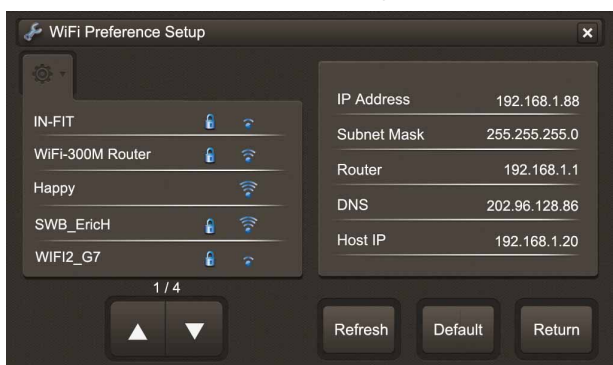

Figure 2-8
1.It will search AP in the vicinity when enter the WiFi setup interface, just wait, after the search interface will be as shown in figure 2-8: